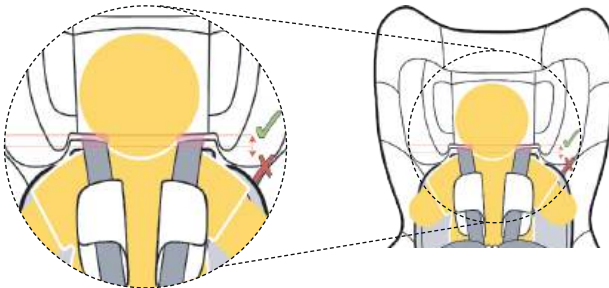

Figure 2
**Step 1:** Check to sight the location of the appropriate shoulder slots (in main shell), refer Figure 2.